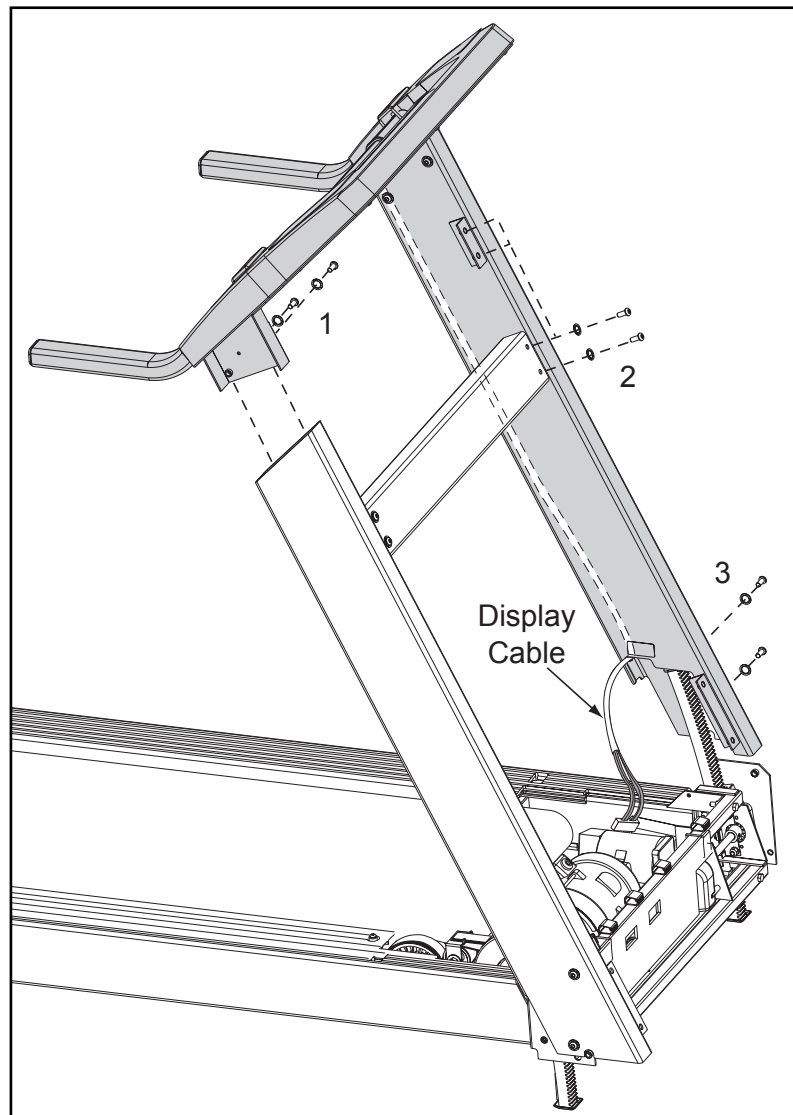

Figure 6
B. Place the assembly in position on the treadmill base. See Figure 6. Keep the display cable away from the elevation rack. Be sure that the display cable does not get pinched, cut or damaged during this process.
C. Using the Allen wrench, loosely attach two button head screws and two star washers in three locations; 1.) into the top of the right upright, 2.) into the cross brace and 3.) into the bottom left upright. See Figure 6.